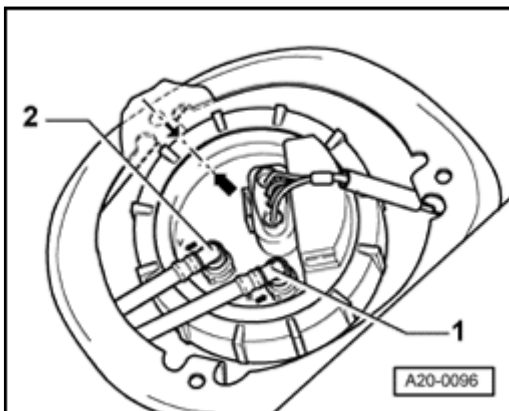
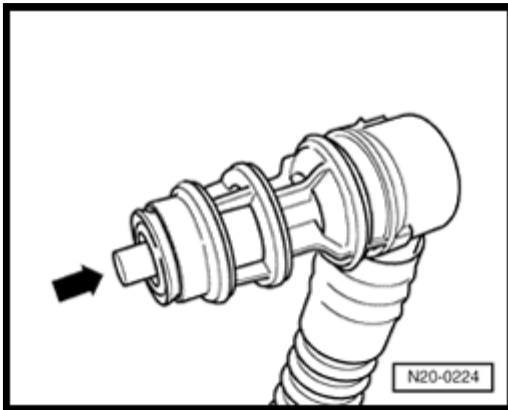

Fig. 203: Installed Position Of Flange Of Fuel Delivery Unit
Fig. 204: Checking Switch Valve
- Remove cover before installing. Refer to item 1
- Checking. Refer to **Fig. 203** & **Fig. 204**